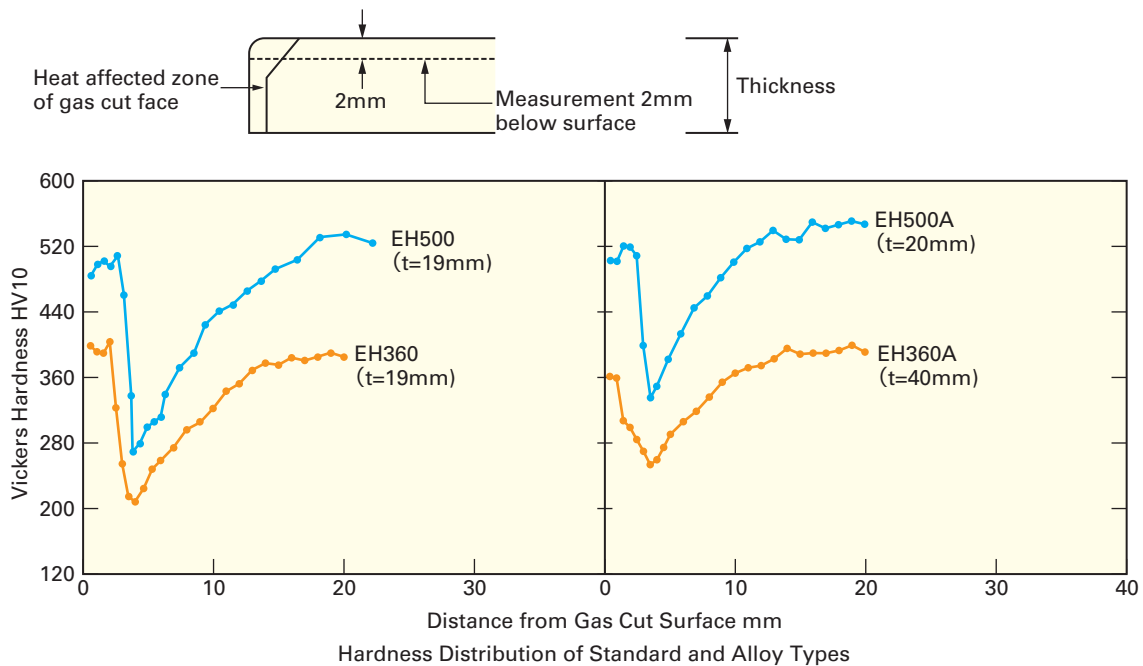

Fig. 1 Hardness around gas cut surface
- A thin hardened layer will be formed on the gas cut surface due to heat effects, although its thickness is around 2 ~ 3mm as shown in the Fig. 1. A softening layer appears next to a hardening layer due to heating by gas cutting.
- Surface temperature will be elevated too high if simultaneous cutting of both the sides is carried out when slitting especially into small pieces. In such cases, please cut one side first and wait for the cooling of the surface temperature sufficiently, then cut another side. Please use caution with hardness reduction near gas cut surface as shown in Fig. 1, especially when slit pieces for applications or hardness test are taken.